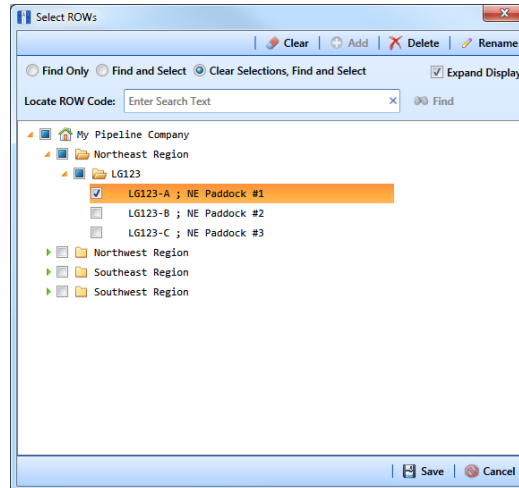

Figure 2-37. Select ROWs
- 1 Click the **Select ROWs** button  to open the *Select ROWs* window (Figure 2-37, page 75). Select one or more pipeline segments with facilities you want to work with, then click  **Save** to close the window.